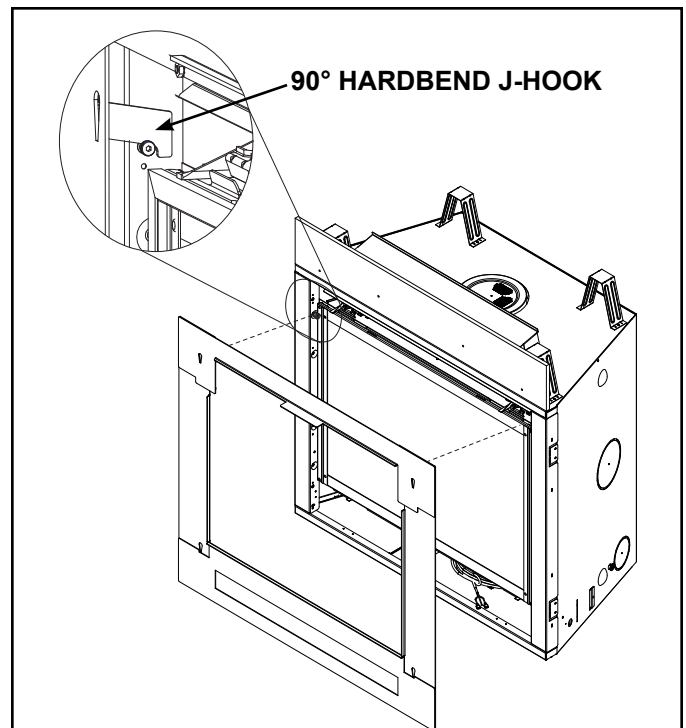

Figure 2. Inner Door Installation
2. Bend the (4) handbend J-hooks on the back of the inner door to 90° perpendicular to allow for easy hanging of the door on the unit. Adjust handbend J-hooks if needed. See Figure 2 for reference.
3. Attach the inner door to the appliance, mount the J-hooks on the shoulder bolts. See Figure 2.